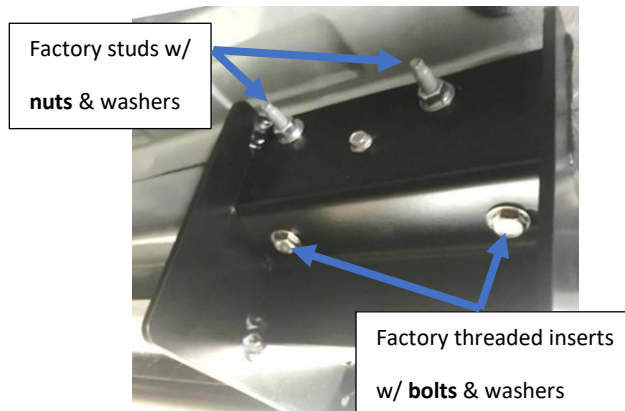

Figure 3: Hardware Installed Through Nerf Bar Brackets
5. Loosely install 5/16" split washers, 5/16" flat washers, and M8 nuts over the studs to hold the side step up to the body (reference Figure 3). Start with the front-most attachment point and work towards the rear of the vehicle.
6. Loosely install the M8-1.25 x 40 mm bolts, 5/16" split washer, and 5/16" flat washers vertically into the factory threaded inserts through the side step brackets (Figure 3).